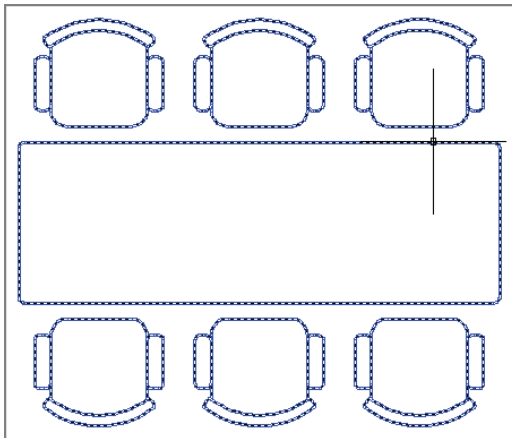

FIGURE 7.29 Reconstituted group after its constituent objects have been deleted, added, and stretched
-  13. Click the Group Selection On/Off toggle in the Groups panel (turning it on). Hover the cursor over the desk, and observe that the entire group is highlighted (see Figure 7.29).